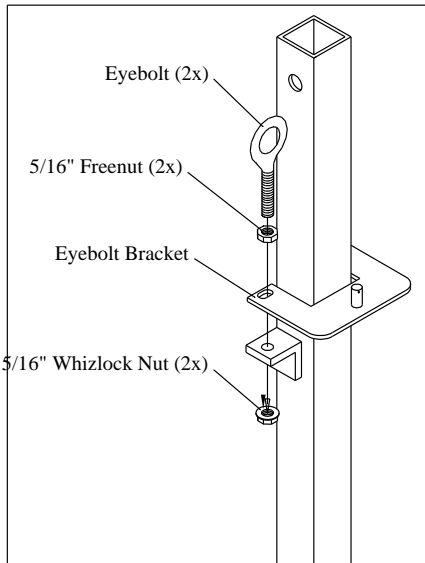

Fig. 4
4. Spin 5/16" whizlock with flange, down onto eyebolt (8). Position eyebolt bracket as shown in Fig 4. Align slots with holes. Slip eyebolts thru brackets. Secure with 5/16" free nut. Tighten whizlock nuts.